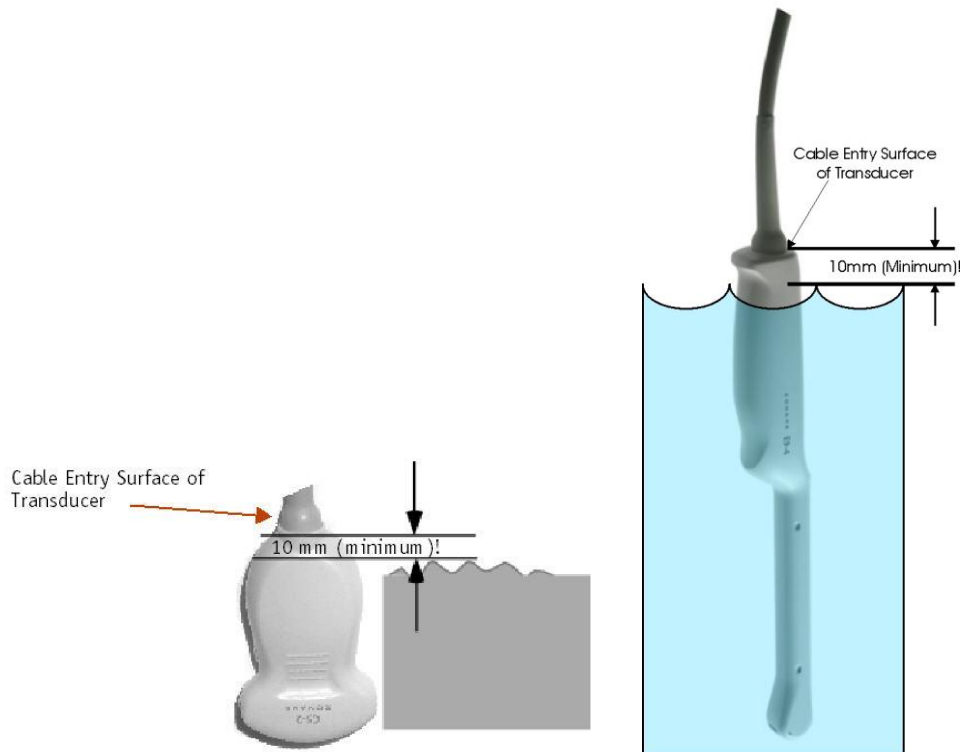

Figure 1: Immersion Level Limits for Transducers
5. Immerse the transducer into the disinfecting solution, ensuring it is not immersed below the depth indicated in **Figure 1** (next page). Immersion time should be as recommended by the disinfectant manufacturer.
- To prevent possible damage to the electronics of the transducer, never immerse the transducer beyond the point (10 mm below the top edge of the transducer housing) shown in **Figure 1**.